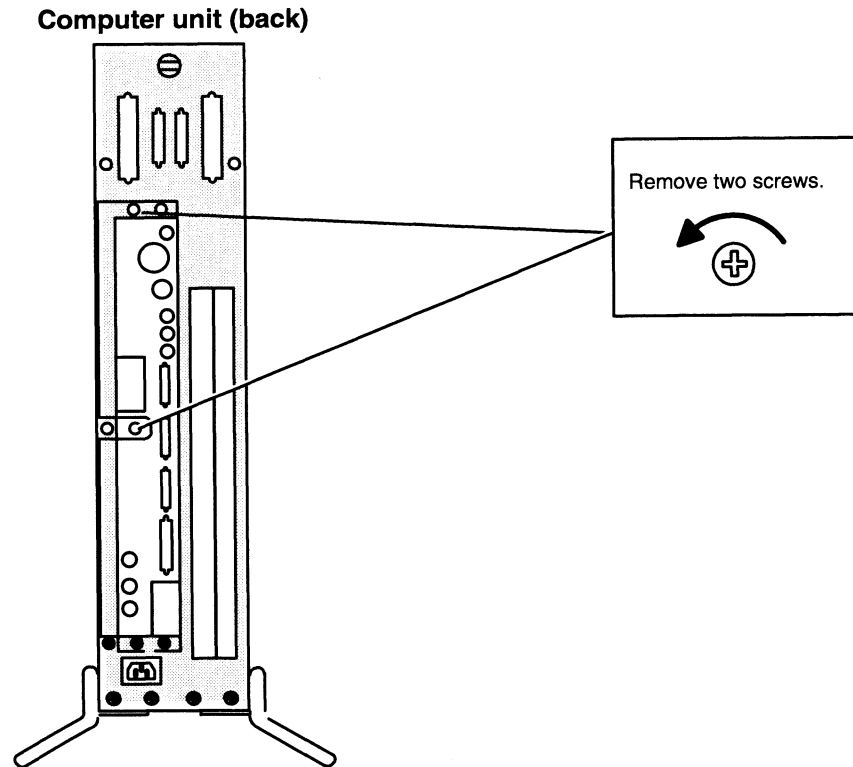

Figure 9-12 Releasing the I/O Expansion Board from the Computer Bulkhead
3. Remove the two screws that secure your I/O expansion board to the computer unit bulkhead, as shown in Figure 9-12.